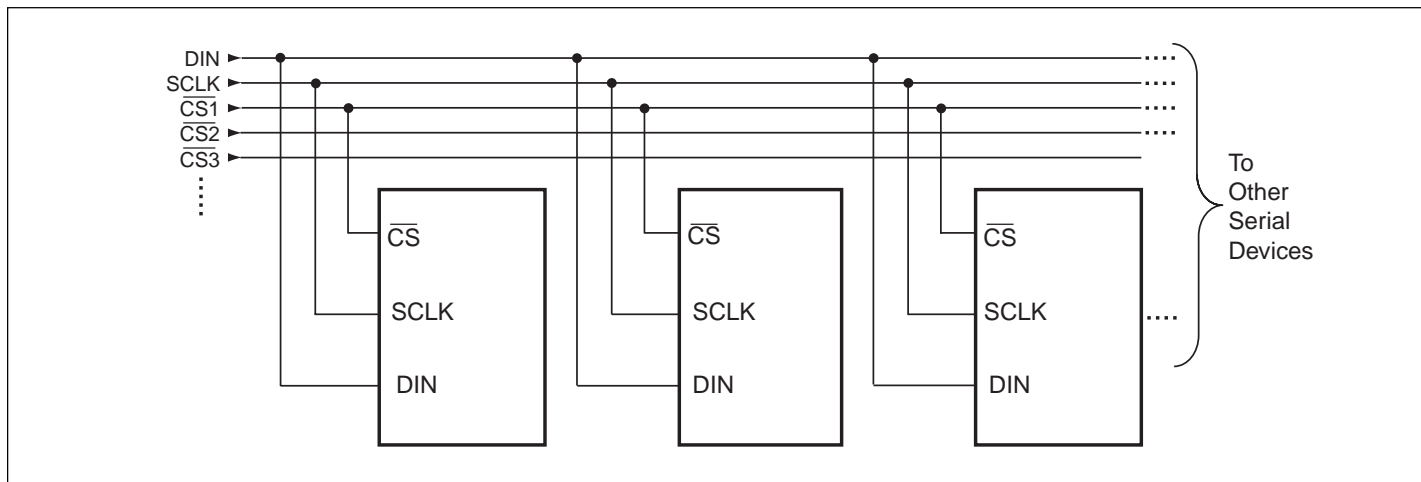

Figure 5. Addressable Serial Interface
6. See Figure 5. Off isolation = $20\log_{10} V_{COM}/V_{NO}$; V_{COM} = output. NO = input to off switch.
6. See Figure 5. Off isolation = $20 \log_{10} V_{COM}/V_{NO}$, V_{COM} = output. NO = input to off switch.
For a simple interface using several PS395s, "daisy chain" the shift registers as shown in Figure 5. The \overline{CS} pins of all devices are connected together, and a stream of data is shifted through the PS395s in series. When \overline{CS} is brought high, all switches are updated simultaneously. Additional shift registers may be included anywhere in series with the PS395 data chain.